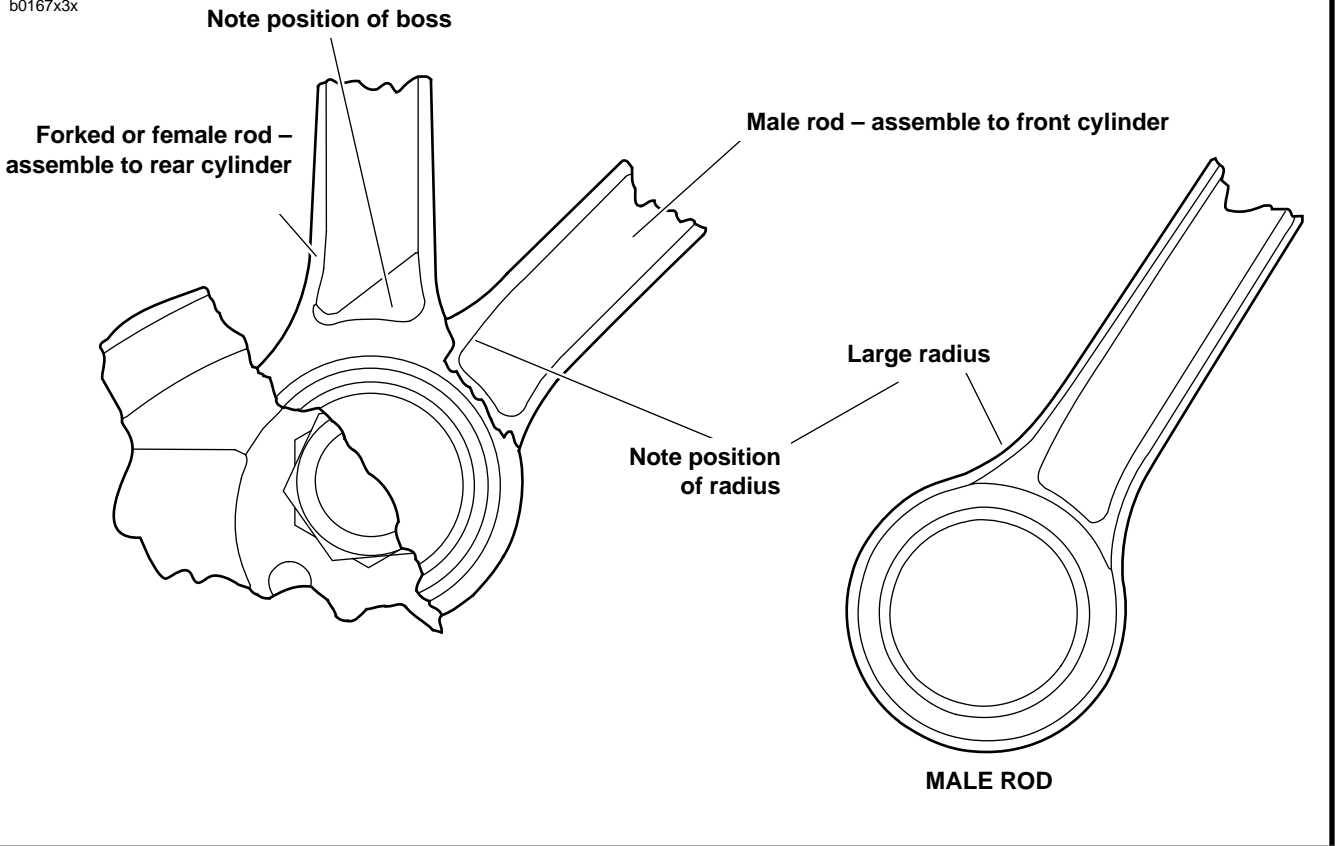

Figure 3-82. Installing Connecting Rods
3. Assemble crank pin (6) to gear-side flywheel (5) making sure that key (7) is in proper position. Tighten crank pin nut. See SPECIFICATIONS for proper torque.
5. See Figure 3-82. Slip bearings, and connecting rods over crank pin. Assemble angular boss of the female rod adjacent to large radius side of the male rod as shown. The side of the male rod with the larger radius is narrower in the area where it fits between the forks of the female rod.